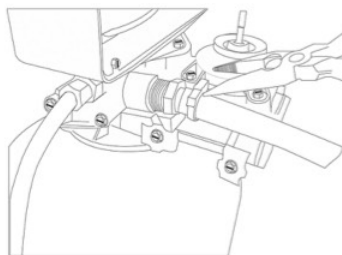

Figure 21
- Next, assemble your 1/2" I.D. drain line to the drain barb as shown in Figure 21 on the following page. Be sure to use rigid wall 1/2" I.D. tubing that will not flatten!